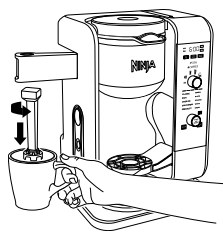

Fig. 22
- 5 You can easily remove the frother whisk by twisting it clockwise. To avoid spills, keep your cup below the whisk and carry it to your sink or dishwasher for cleaning (Fig. 22).